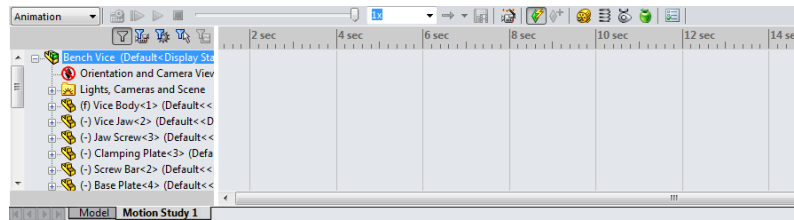

Figure 20-20 The MotionManager Interface
- Click on the **Motion Study 1** tab displayed at the bottom; the **MotionManager** Interface is displayed, as shown in Figure 20-20.